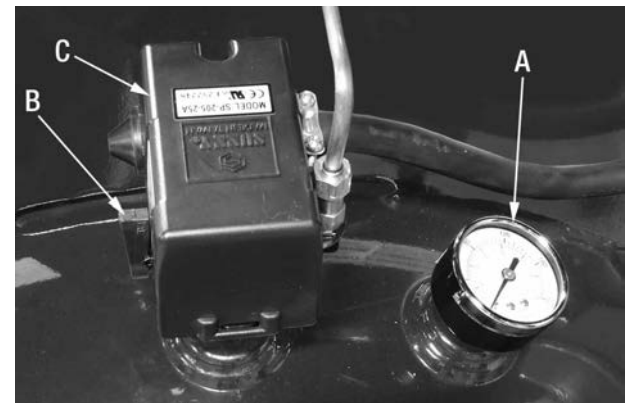

FIGURE 8
**TANK PRESSURE GAUGE (A) FIG. 8.** The tank pressure gauge indicates the reserve air pressure in the tank.
**ON/AUTO-OFF SWITCH (B) FIG.8.** Turn this switch ON to provide power to the automatic pressure switch and OFF to remove power at the end of each use.
**PRESSURE SWITCH (C) FIG.8.** The pressure switch automatically starts the motor when the tank pressure drops below the factory set “Cut-In” pressure. It also stops the motor when the air tank pressure reaches the factory set “Cut-Out” pressure.